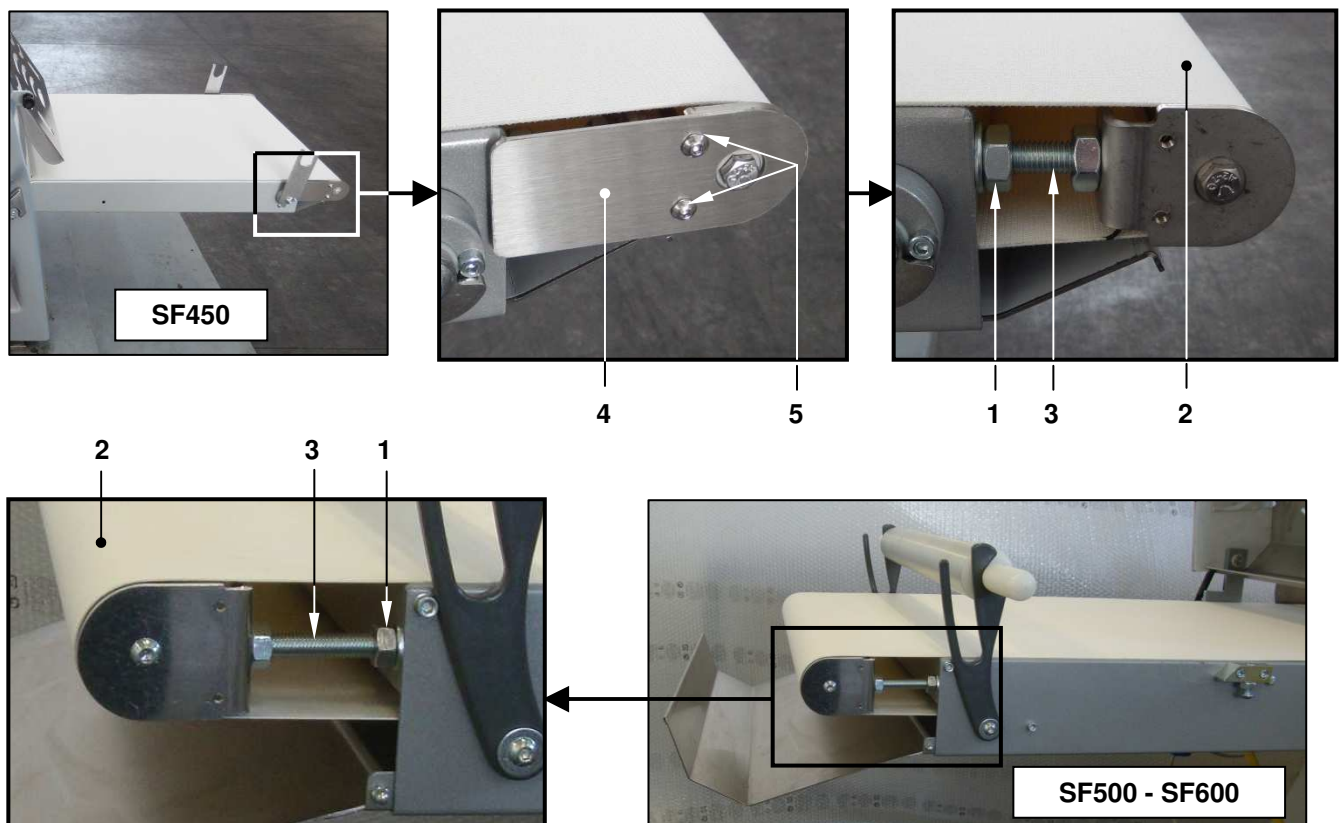

Figure 32 - Conveyor belt tensioning and centring system
With reference to Figure 32, using an open-end spanner, turn the nuts ref. 1 on each side of the bench in order to move the roller ref. 2 forwards/backwards via the threaded rods ref. 3. Tension the conveyor belts as much as necessary (or slightly more) so that their speed is uniform both when empty and unloaded. Excessive tension would not provide any advantage but could cause rapid and abnormal wear.